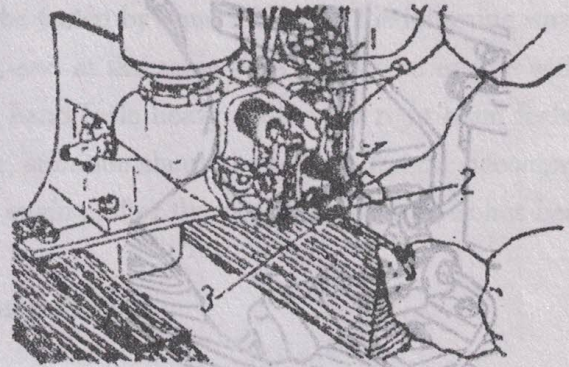

Fig. 13 Adjusting the valve clearance
3. Loosen the locking nut and turn the adjusting screw on the rocker arm with a screw driver (Fig. 13), to set the valve clearance to the specified value by means of a feeler gauge inserted between the valve stem and the rocker arm. (Intake valve clearance is 0.35mm. and exhaust valve clearance 0.45mm).